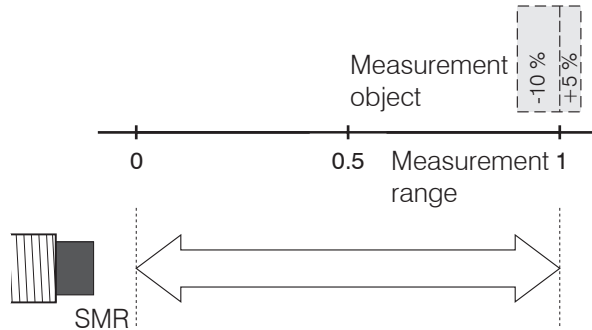

Fig. 36 Positional tolerance of the measurement object at the end of the measurement range.
- ➡ Press the key ↵ to edit the value for the end of the measurement range (EndM.Range) due to the positional tolerance, see Fig. 36.